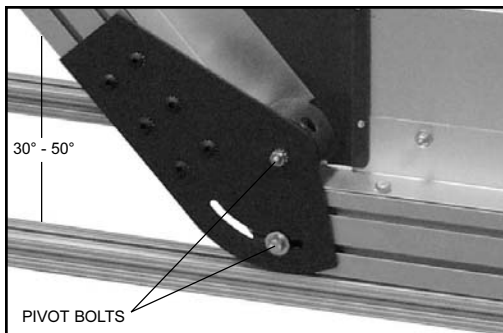

Figure 1
- 1) Loosen the pivot bolts (*see Figure 1*) on both sides of the conveyor.
- 3) Set conveyor at desired angle (between 30° and 50°) and retighten the pivot bolts, after setting the conveyor to the desired angle (*see Figure 1*).